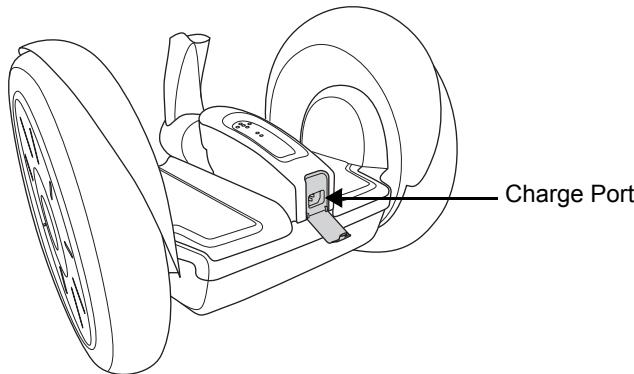

Figure 20. Open the Charge Port
2. Open the Charge Port on the back of your Segway PT's Console (see **Figure 20**).